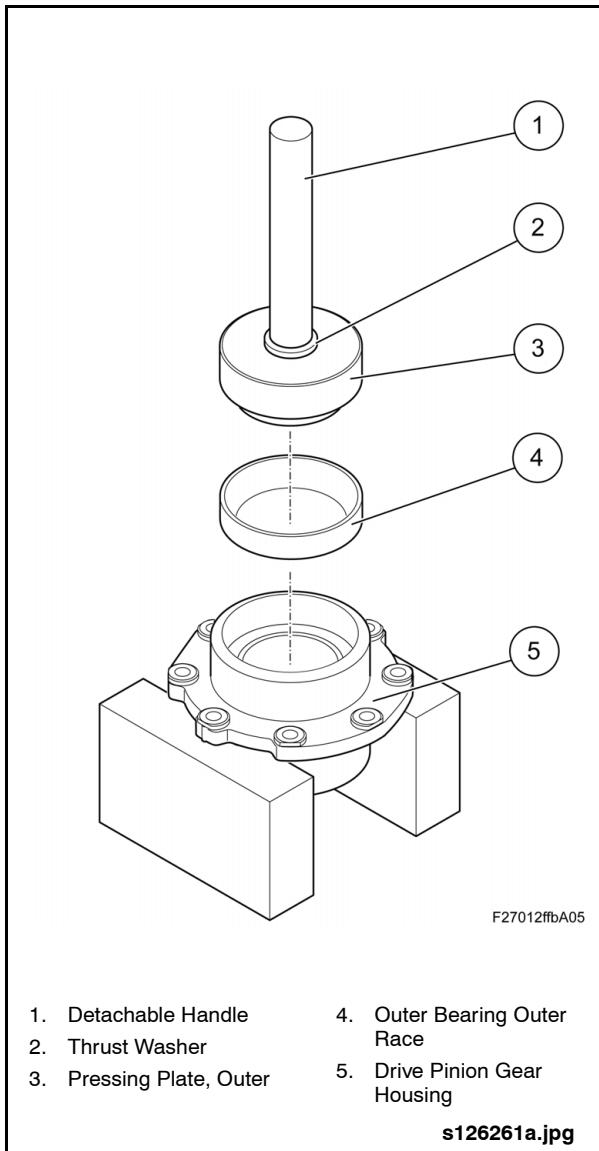

Fig. 2-96: Installing Outer Bearing Outer Race
1. Assemble the Outer Pressing Plate with the Detachable Handle and Thrust Washer (Items 18, 33 & 15 from Special Tools List). See “Fig. 2-96: Installing Outer Bearing Outer Race” on page 76.